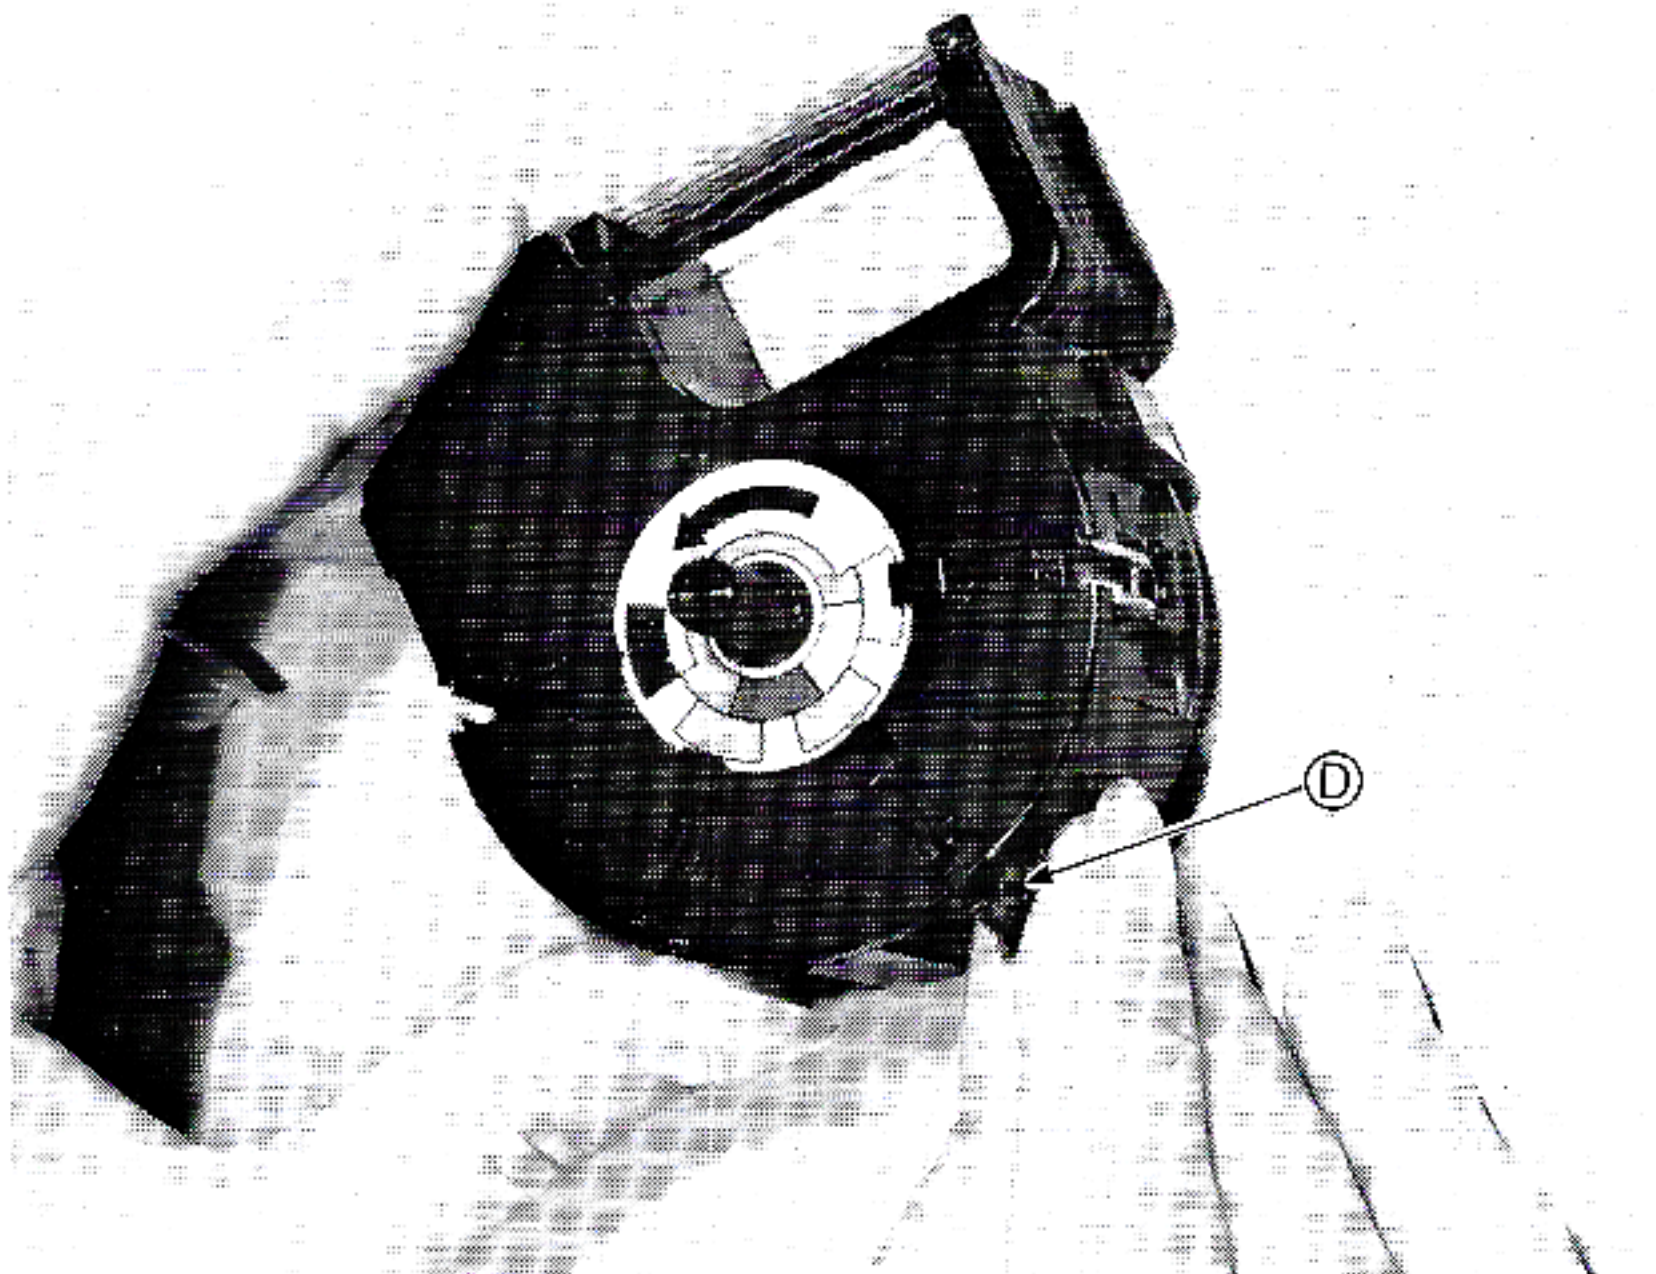

Figure 10
a) The T315 cassette is designed so that a single ink cartridge can be replaced when that particular color is used up. Remove the cartridge by gently pinching inward on the metal clip D as shown in figure 10.